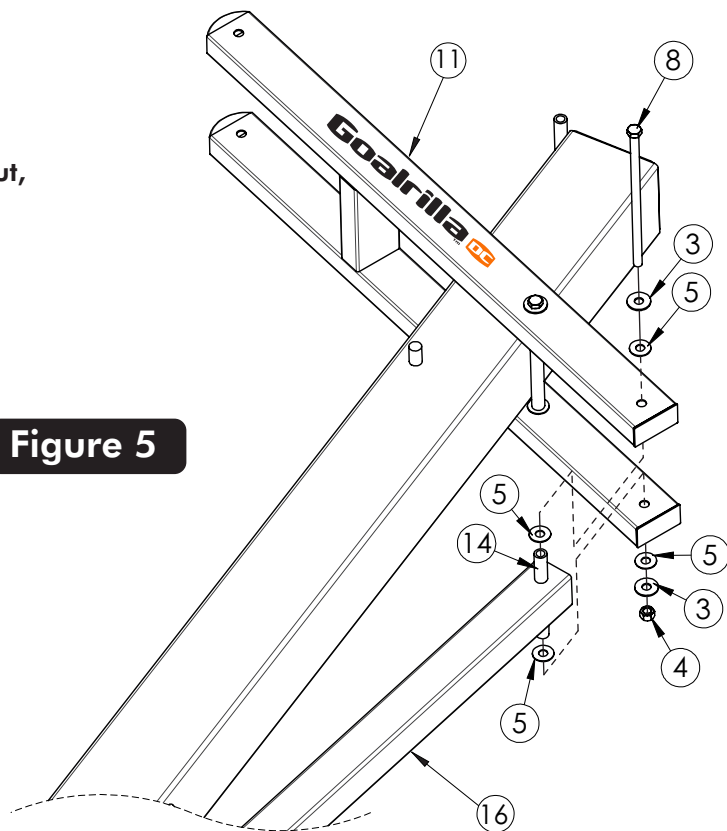

Figure 5
6. Secure Actuator (#16) to Lower Arm (#11) using one bolt (#8), two flatwashers (#3), four plastic washers (#5) and one hex nut (#4). See Figure 5. **Tighten both bolts (#8) snug but, do not over tighten. Board Arms must pivot freely.**